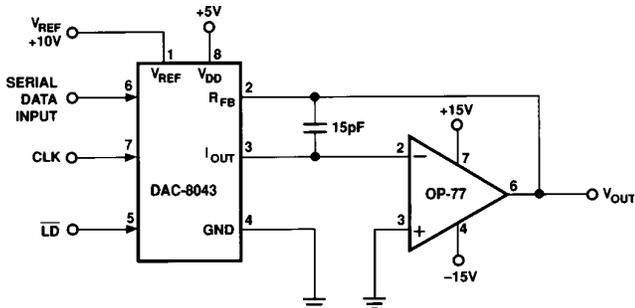

Figure 5. Unipolar Operation with High Accuracy Op Amp (2-Quadrant)
1. Phase compensation (see Figures 5 and 6).
In most applications, linearity depends upon the potential of  $I_{OUT}$  and GND (pins 3 and 4) being exactly equal to each other. In most applications, the DAC is connected to an external op amp with its noninverting input tied to ground (see Figures 5 and 6). The amplifier selected should have a low input bias current and low drift over temperature. The amplifier's input offset voltage should be nulled to less than  $+200 \mu\text{V}$  (less than 10% of 1 LSB).
The circuit shown in Figures 5 and 6 may be used with an ac or dc reference voltage. The circuit's output will range between  $0 \text{ V}$  and approximately  $-V_{REF}$  (4095/4096) depending upon the digital input code. The relationship between the digital input and
1Nominal full scale for the circuits of Figures 5 and 6 is given by
2Nominal LSB magnitude for the circuits of Figures 5 and 6 is given by
The transfer function for the DAC8043 connected in the multiplying mode as shown in Figures 5, 6 and 7 is: